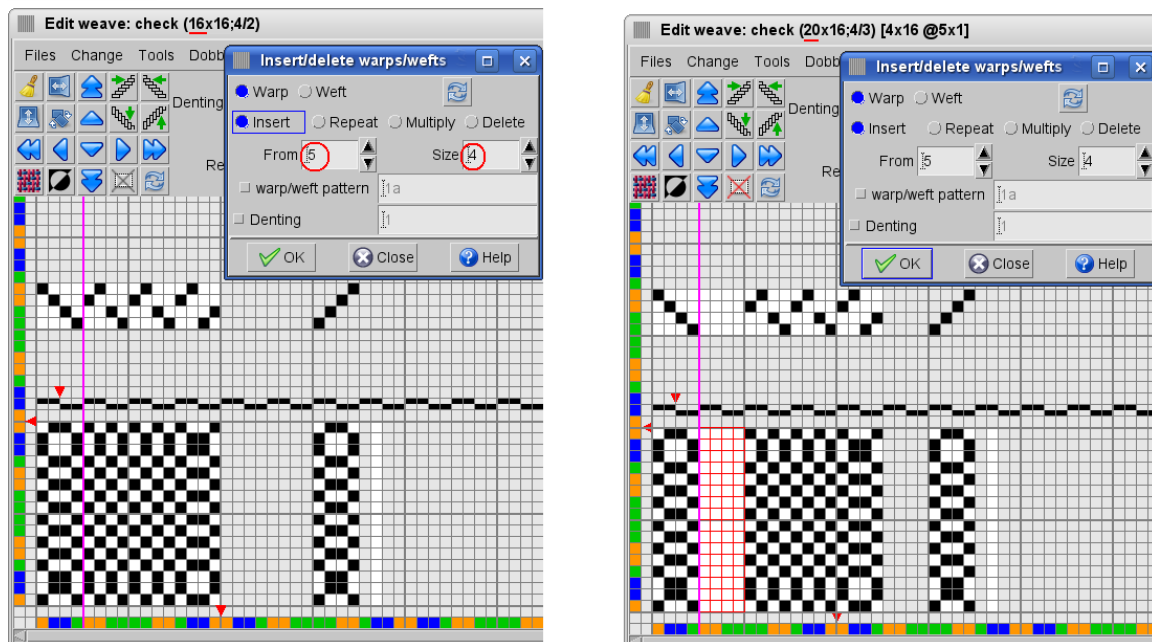

Figure 104: Insert warps/wefts: set **From** and **Size**, then click on the **OK**
- Choose **Tools > Insert/delete warps/wefts**. The window in Figure 104 pops up. You have to choose mode (**insert** or **delete**) and directions (**warp** or **weft**). Then enter position of inserting/deleting in the **From** field and number of inserted/deleted threads in the **Size** field. Program will draw magenta line to indicate the starting point of insertion. Note that area is always inserted to the right or above that line. Similarly, if you are deleting warps/wefts, the area selected for erasure will be crossed out in magenta lines.